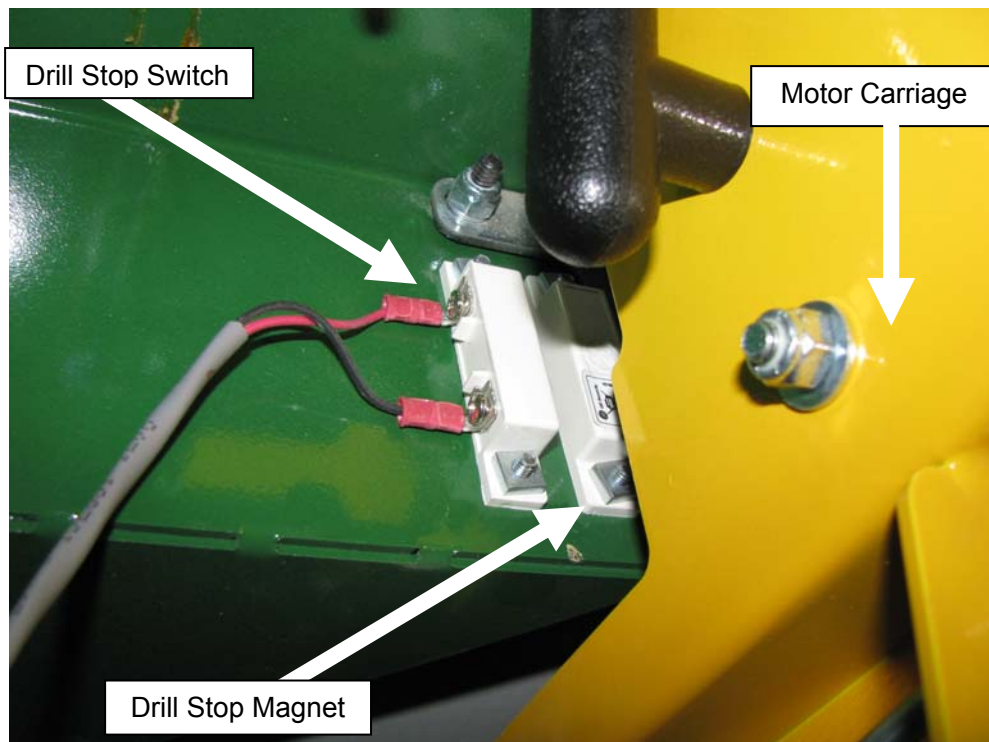

Fig 18
2. The Drill Stop Switch and magnet are located inside the machine on the back side of the Face Plate, slightly to the left of the Pilot Drill Hole. **See Fig 18.**